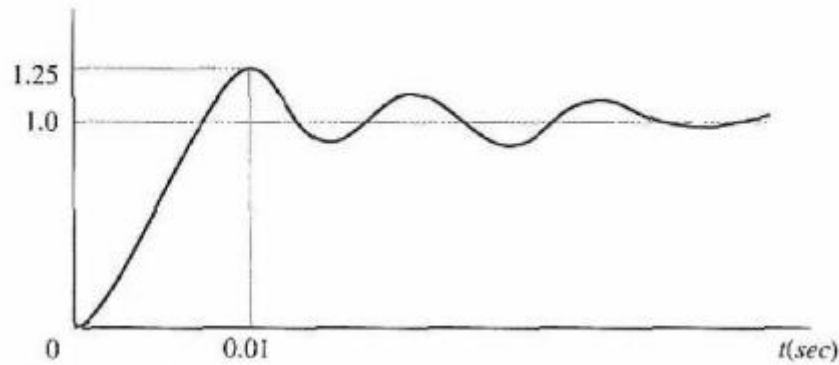

Figure 6
- 4B. The unit-step response of a linear control system is shown in figure 6. Find the transfer function of a second-order prototype system to model the system. 4